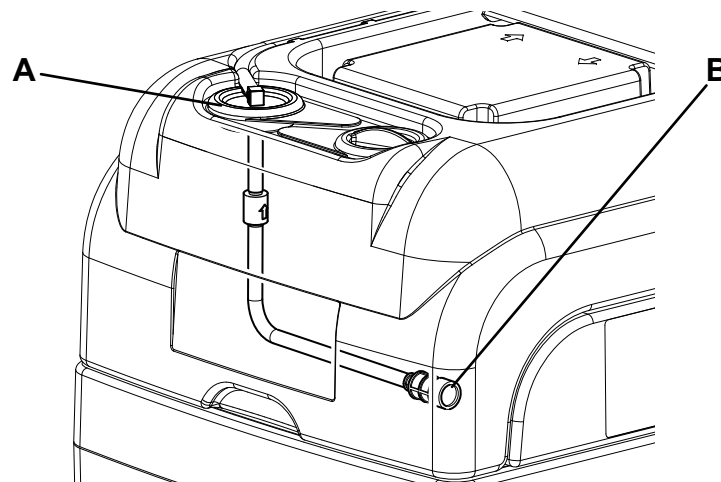

Figure 6
1. Empty the solution tank (14) as shown in Use chapter.
3. Make sure that the power supply cable (10) is disconnected from the electrical mains.
4. Remove the solution hose plug (A, Fig. 6), carefully remove the hose from the tank and clean the filter (B) with water.